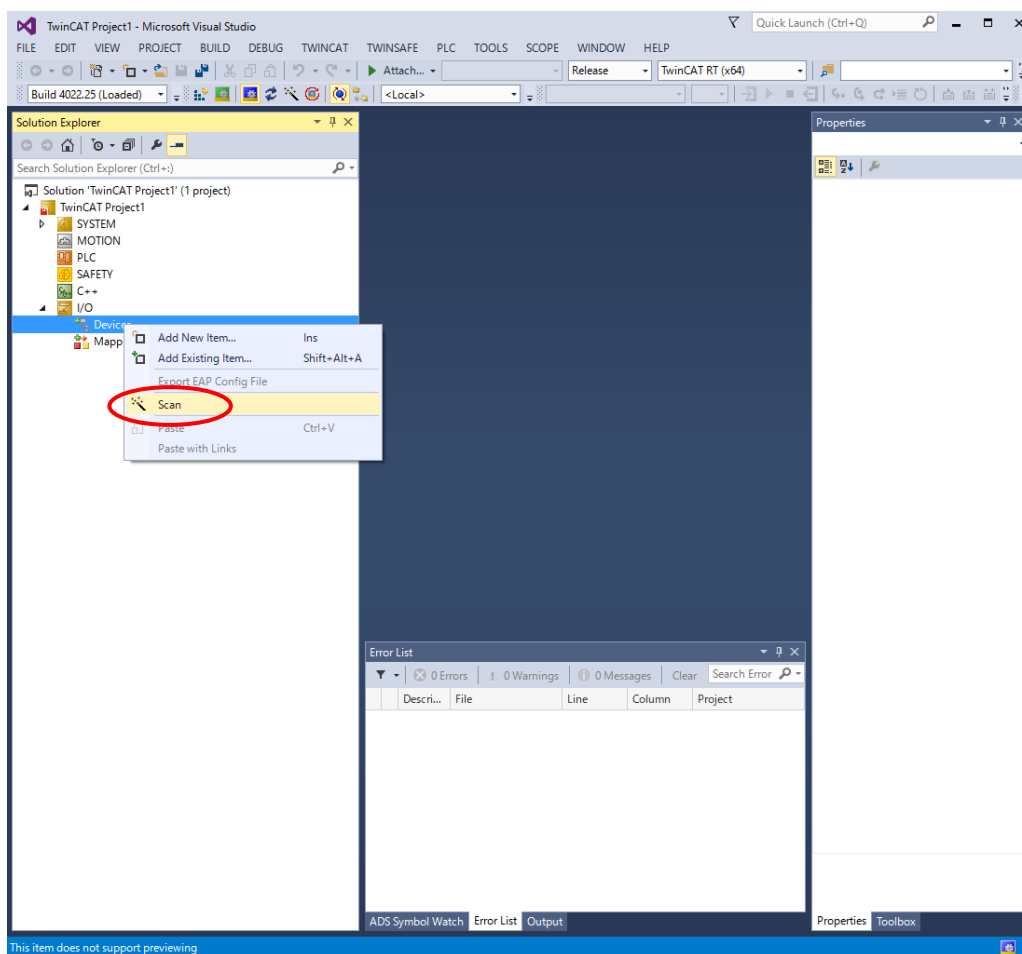

Figure 3-7 Scanning the Network for New Devices
(3) Right-click [Devices] and select [Scan] (Figure 3-7)
After you have clicked [Scan], you will be prompted that not all devices in the network can be found automatically. Click ok. TwinCAT®3 will then show you a list of available devices in the network. Select the [EtherCAT] device connected to the network controller that you use for the CN032-9 DC Servo Solution board (see Figure 3-7) and click ok